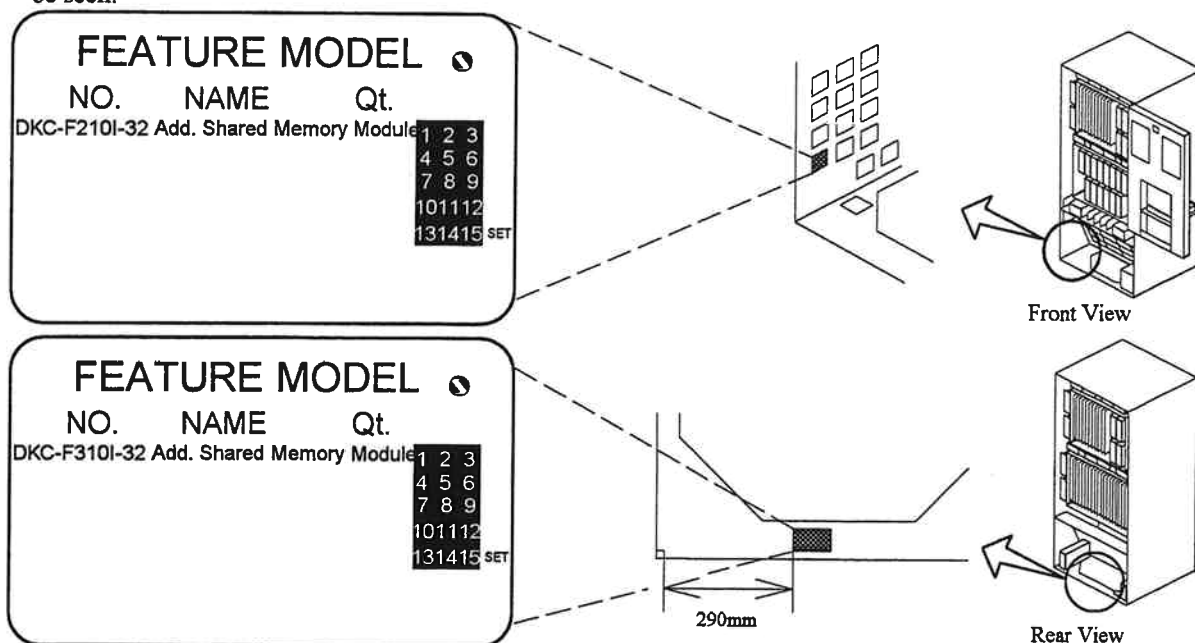

Fig. 3.3.7.3.2-14 Location of the Nameplate
- a. When the DKC-F310I-32 is to be newly installed, attach a nameplate according to Figure 3.3.7.3.2-14. When the nameplate is already attached, go to the next step.
- b. Refer to Fig. 3.3.7.3.2-14 and Table 3.3.7.3.2-13 to paint out unnecessary numbers and wipe off a necessary number painted previously so that the "Qt." marking for the corresponding DKC-F210I-32/DKC-F310I-32 can be seen.